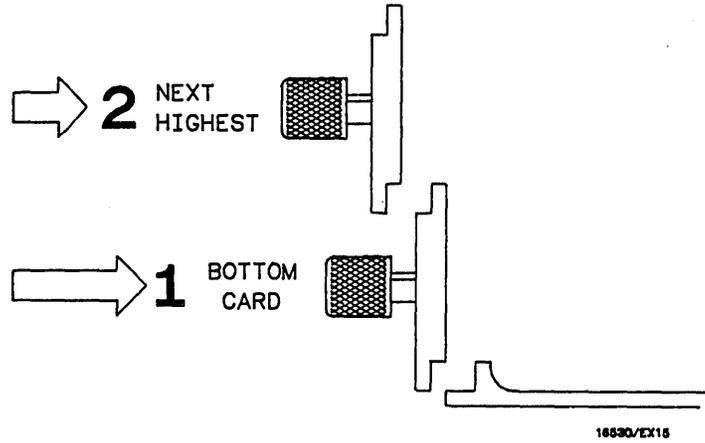

Figure 6-12. Endplate Overlap
- k. Repeat for all cards and filler panels in a **bottom to top** order. See figure 6-12.